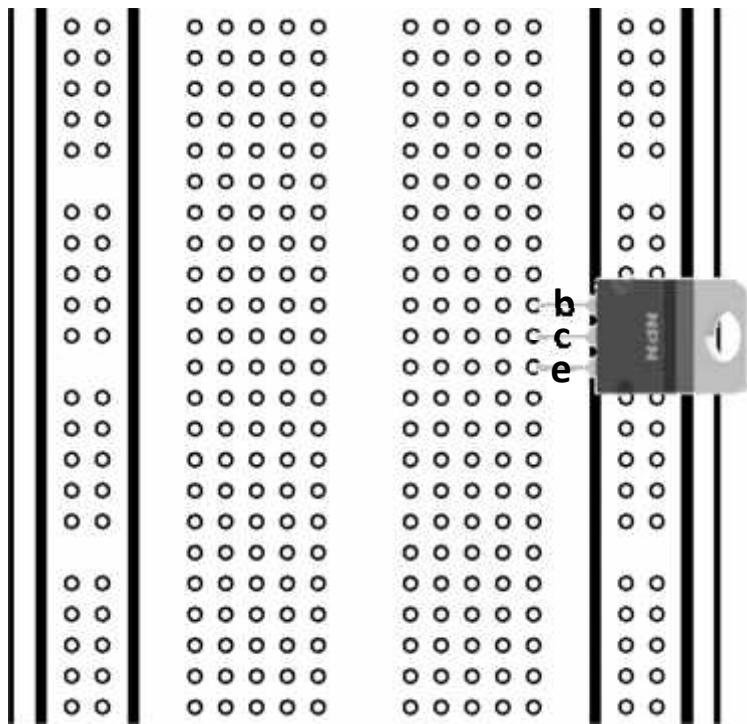
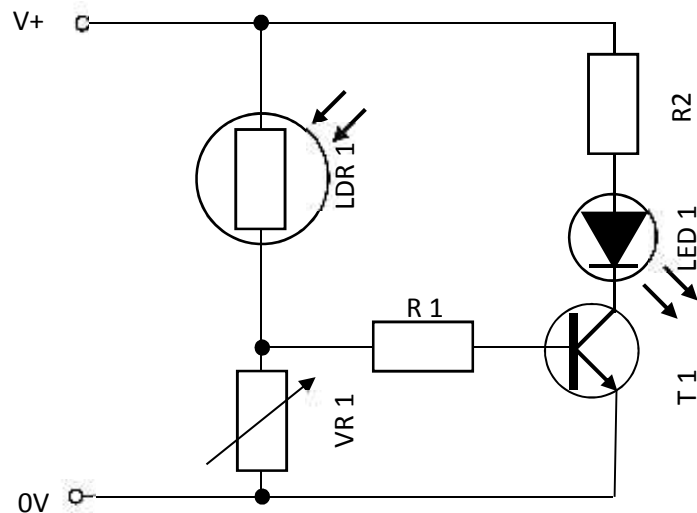

Figure 5
Figure 6
b. Figure 5 shows a piece of equipment with a component in place.
ii. On Figure 5 above construct the circuit given in Figure 6. One component has been drawn for you. Clearly label the supply and the components.